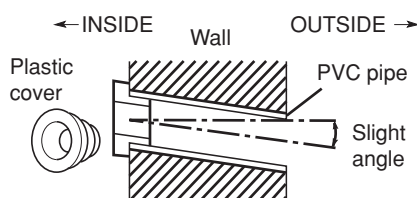

Fig. 3-18
- (6) Place the plastic cover over the end of the pipe (for indoor side only) and insert in the wall. (Fig. 3-18)